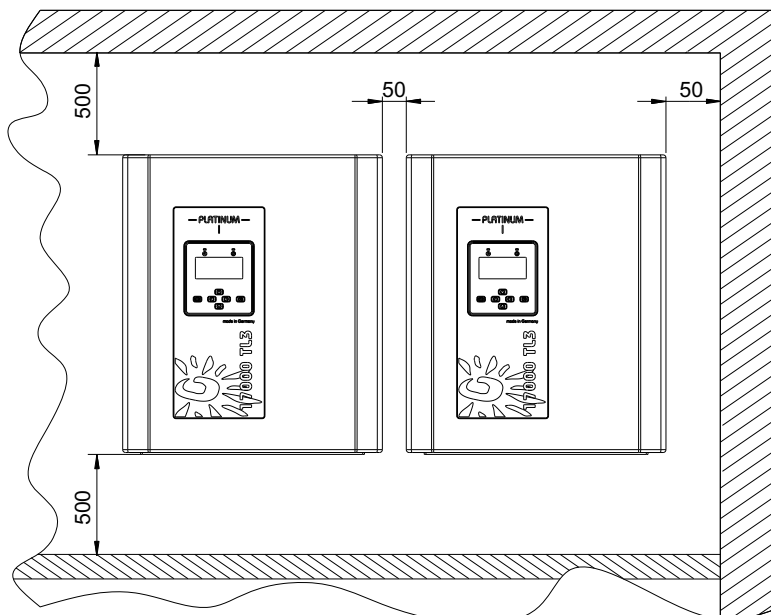

Fig. 4 Spacing for mounting of inverters (indications in mm)
- Verify that minimum distances are kept (see Fig. 4).